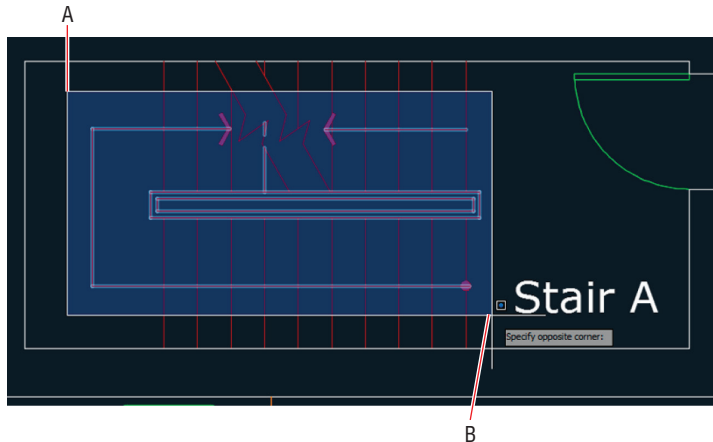

FIGURE 4.2 Drawing an implied window
3. Click point A and then B, as shown in Figure 4.2. Observe that a transparent *implied window* appears between these points. The objects that are selected are only those completely contained within the borders of the blue window. This particular selection includes the